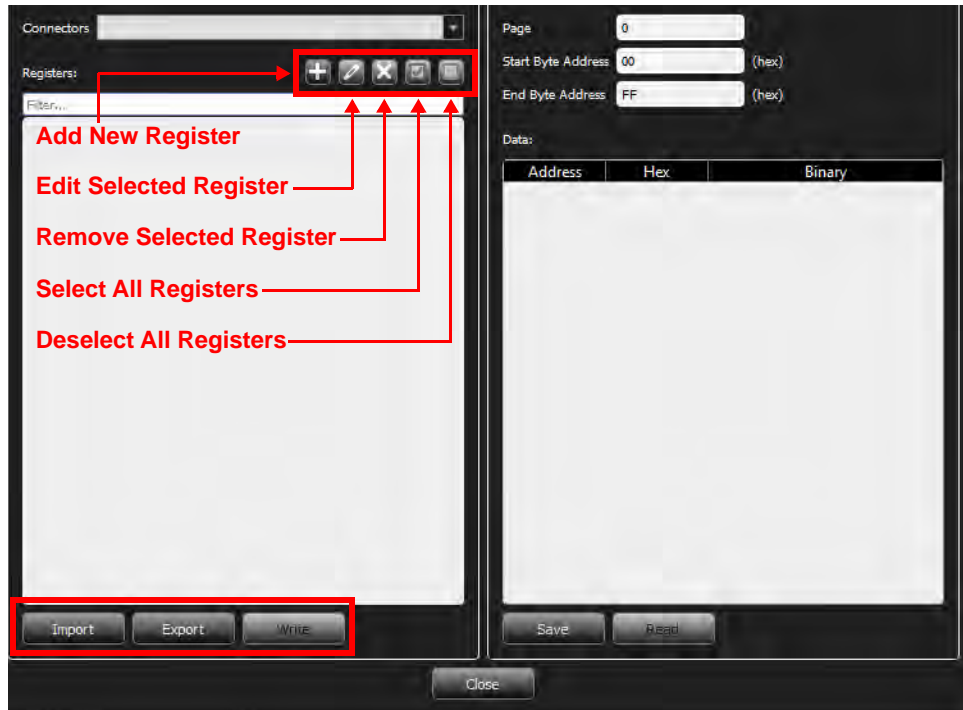

Figure 4.45: Transceiver Modules I2C Write/Read Dialog Window
- Click the **I2C** button at the bottom left corner of the SFP Information window. The Transceiver Modules I2C Write/Read dialog window appears (Figure 4.45).